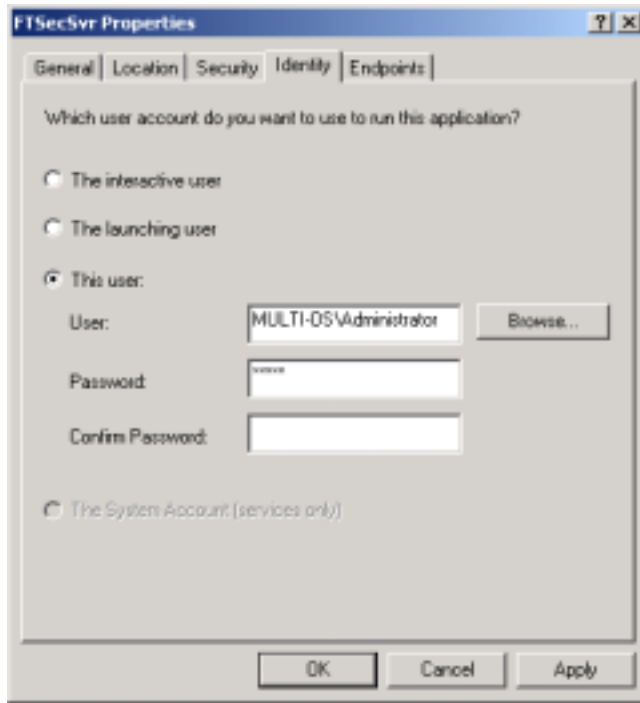

Figure 5.14f
5. Choose the Identity tab and click the "this user" radio button. (See Figure 5.14f below)